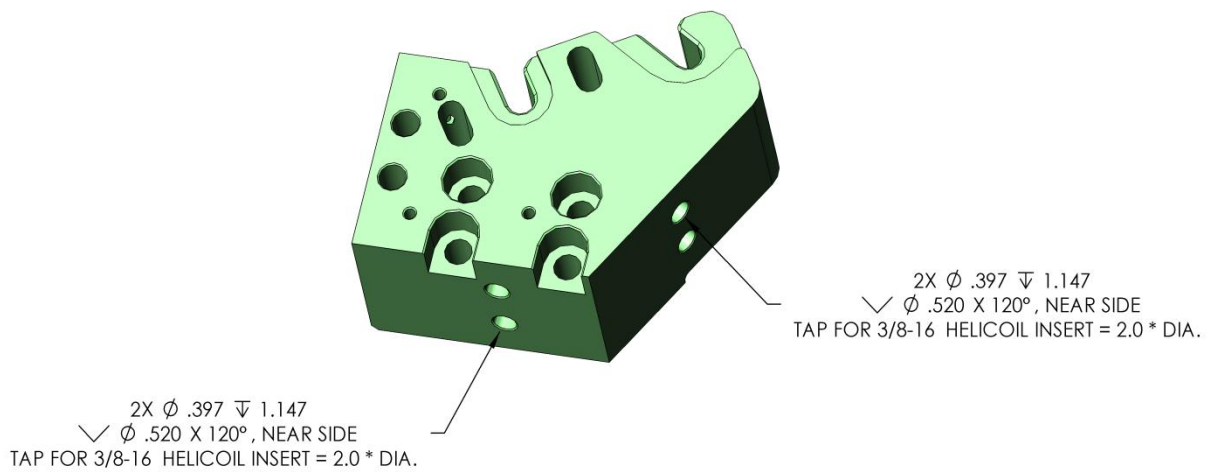

Figure 27
1. Apply Helicoils as shown Figure 27.